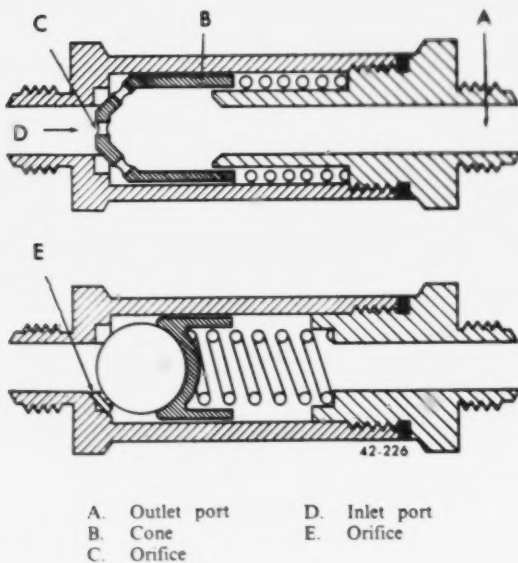

Figure 5-3. Cone and ball orifice check valves.
Orifice Check Valves. Orifice check valves are a combination of an orifice and a check valve. They provide the effects of both in a hydraulic subsystem. They allow normal speed of operation in one direction, but they limit speed in the other. Some typical examples of orifice check valves are shown in figure 5-3.
The top illustration shows the cone orifice check valve. The cone (B) is moved off its seat whenever enough fluid pressure is applied at the inlet port (D). This allows free flow of fluid through the valve and out the outlet port (A). Fluid flows through the valve in the opposite direction, but is restricted by the size of an orifice (C). The bottom illustration of figure 5-3 shows a ball orifice check valve. Fluid flow through the valve from left to right, as shown by the arrow, is normal; fluid flow through the valve the opposite way is restricted by the size of an